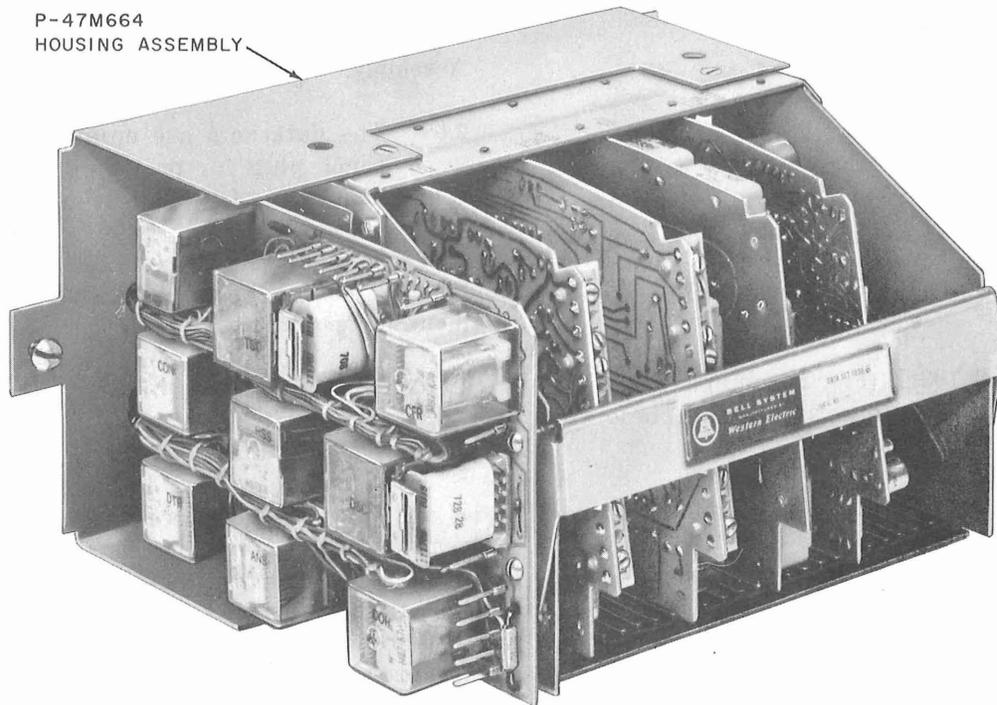

Fig. 4—Data Set 103E6
2.05 The Data Set 103E6 (Fig. 4) contains four circuit pack units and a relay board assembly of nine miniature relays. These units are designated as follows:
2.08 Data Sets 103E2, 103E5, and 103E6 (Fig. 4, 5, and 6) are supplied with a P47M664 Housing Assembly that provides for mounting the data sets on a 2A1 Data Mounting. The Data Set 103E4 is identical to the Data Set 103E2 except that it is not supplied with the P47M664 Housing Assembly.